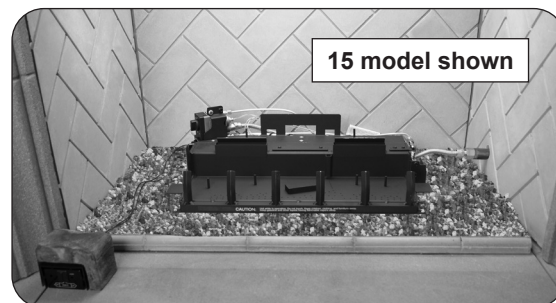

Fig. 18-4 Place lava granules
1. Spread the supplied lava granules on the floor of the fireplace; around the front and sides of the burner system (see Fig. 18-4). The lava granules may be placed around the wood chip and remote receiver (as applicable). Leave the front and top of the components clear for control access.